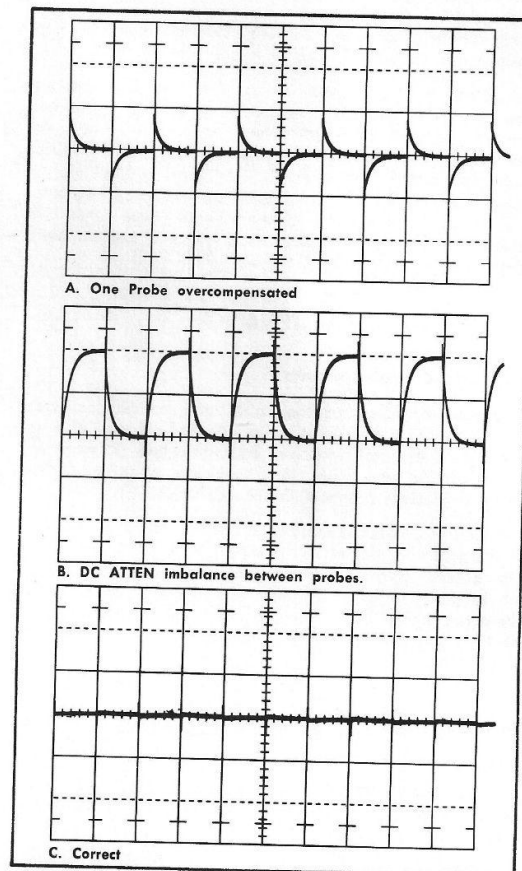

Fig. 4. Two P6023 Probes in common-mode using Type W (A-B).
16. To obtain maximum common-mode rejection ratio, a slight readjustment may be necessary. See Fig. 4.